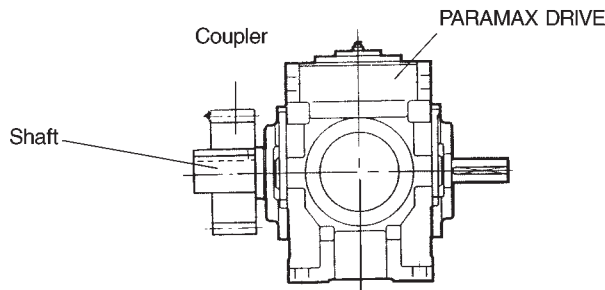
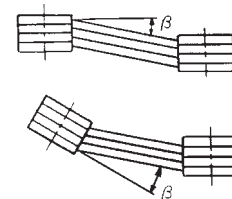

Fig. 4
Fig. 5
(2) Use of chain, sprocket, or gear
- Locate the sprocket or gear as close to PARAMAX as possible so that the point of application of the load will be closer to the PARAMAX vertical centerline (Fig. 4).
(3) Use of V belt
- Accuracy of parallelism (β) between two pulleys shall be less than $20'$ (Fig. 5).